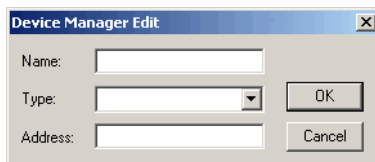

Figure 10 The Device Manager Edit dialog
3. Click New to open the Device Manager Edit dialog box (Figure 10).